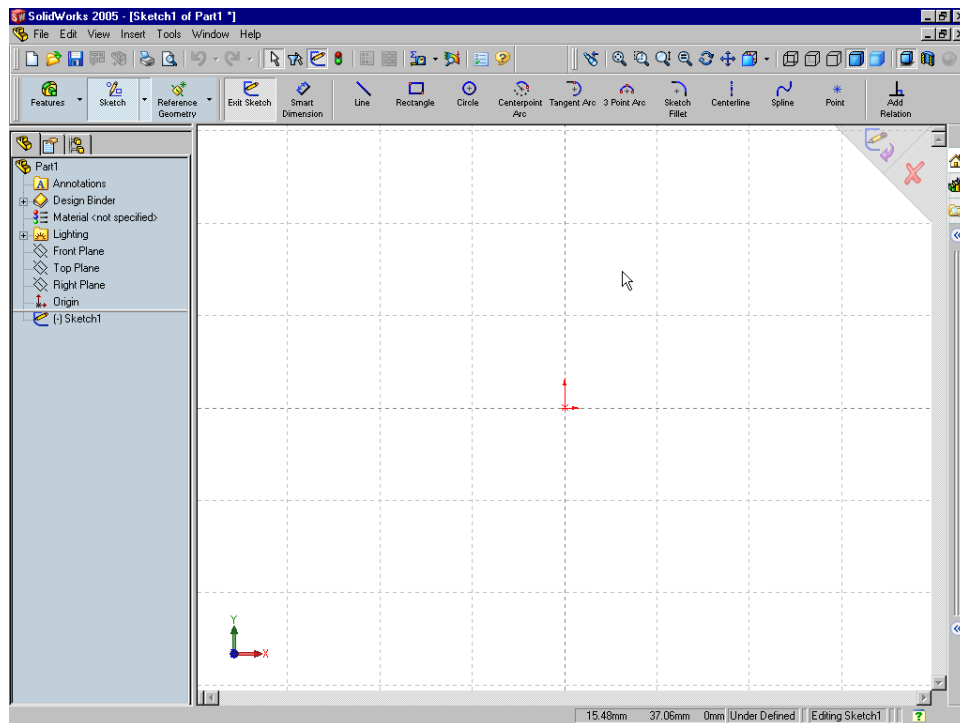

Figure 1-49 Screen display in the sketching environment
6. Select **Front Plane** from the drawing area; the sketching environment is invoked and the plane is oriented normal to the view. You will notice that a red origin is displayed in the center of the screen, indicating the sketching environment. The default screen appearance of the sketching environment of SolidWorks is shown in Figure 1-49.